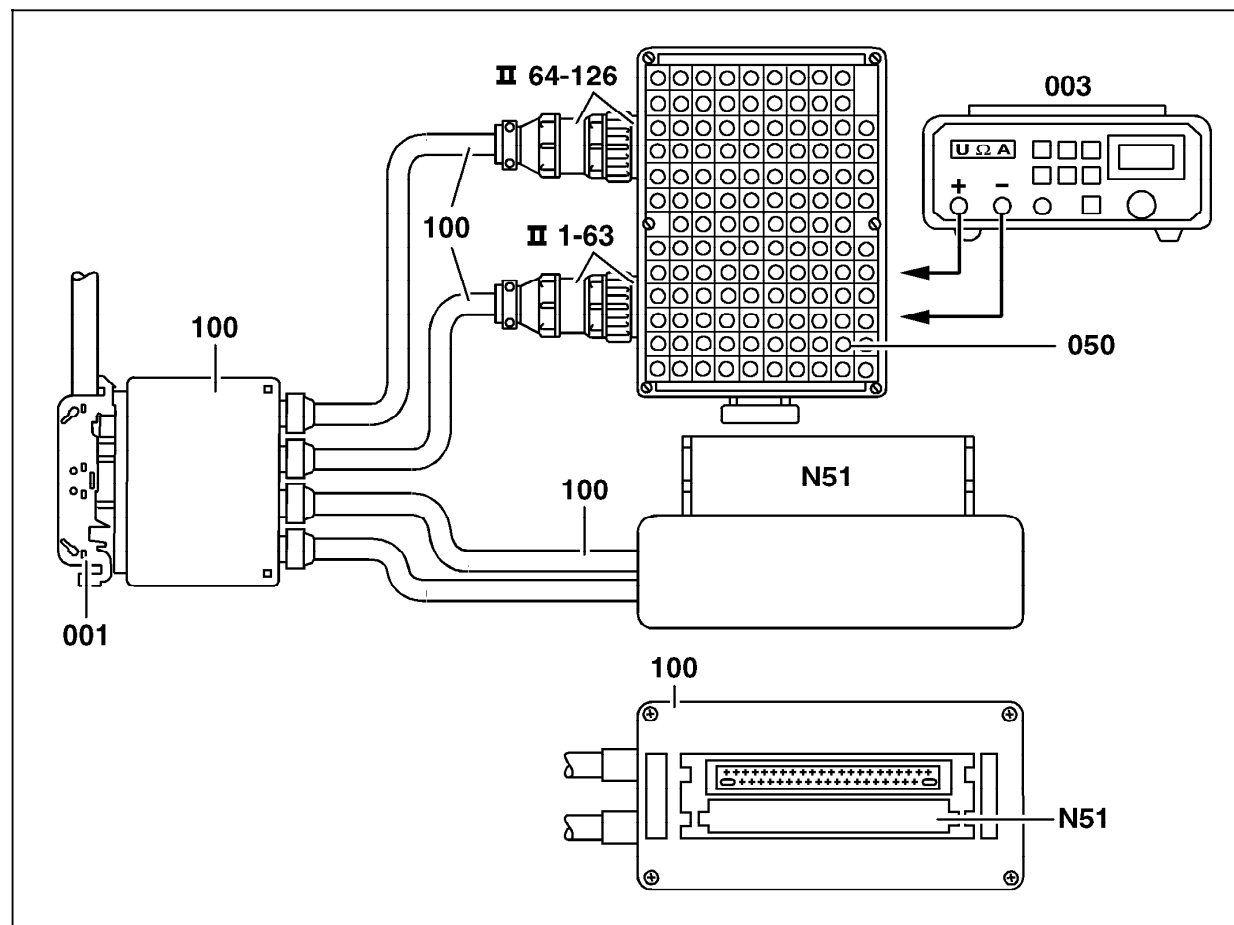

Figure 2
- 5. Connect socket box and test cables (Figure 2).